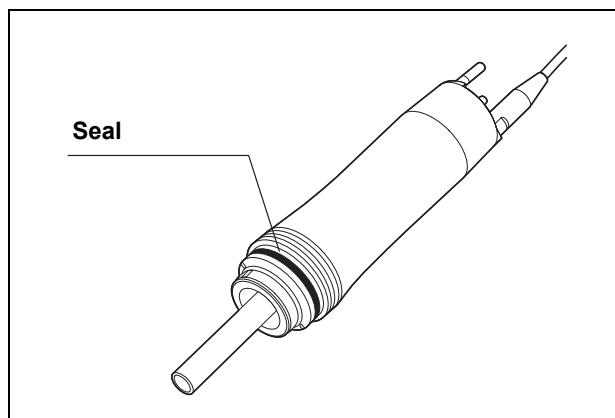

Figure 4.1
4. If the transducer's seal is damaged or broken, do not use the transducer and contact Olympus (see Figure 4.1).